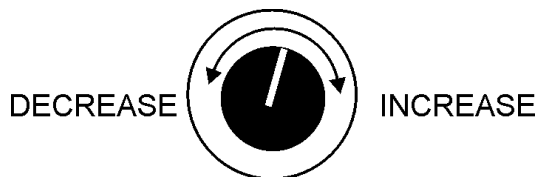

Figure 46. Voltage Adjusted Control Knob
11. Use the voltage adjustment control knob (Figure 46) to increase or decrease the desired voltage.